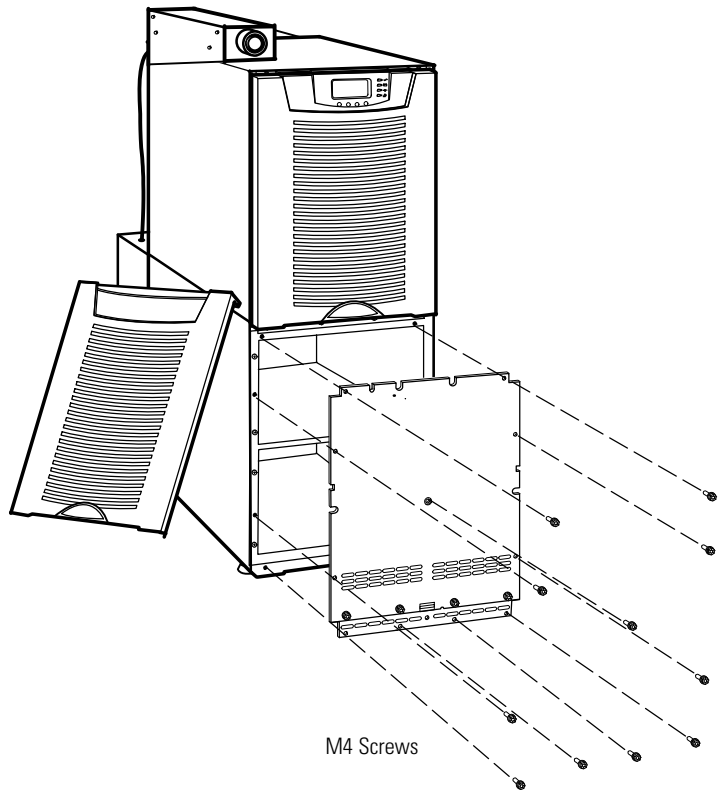

Figure 26. Removing the Internal Cover Panel
4. The internal cover panel is made up of two parts joined together with four screws. Remove both parts of the panel at the same time by removing the 10 M4 screws around the edges of the panel and the single M4 screw in the middle of the panel (see Figure 26).